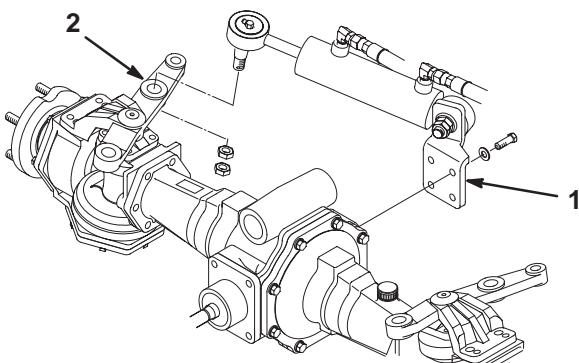

Figure 2
2. Mount cylinder support bracket to rear of axle with 4 screws (M10 x 30) screws and washers (Fig. 2). Apply Loctite 242, or equivalent, and torque screws to 34-42 ft.-lb. (46-56 N·m).
4. Secure ball joint end to steering arm with a jam nut (Fig. 2) and torque it to 70-90 ft.-lb. (94-122 N·m). Install a second jam nut and torque it to 70-90 ft.-lb. (94-122 N·m).